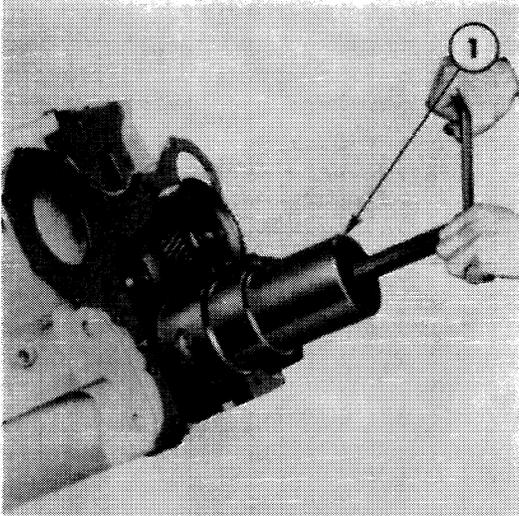

Figure 23
8. Remove the fuel injection pump drive gear, camshaft drive gear and adapter and the camshaft gear. Use Tool No. CPT.6040B to remove the crankshaft gear, Figure 23.